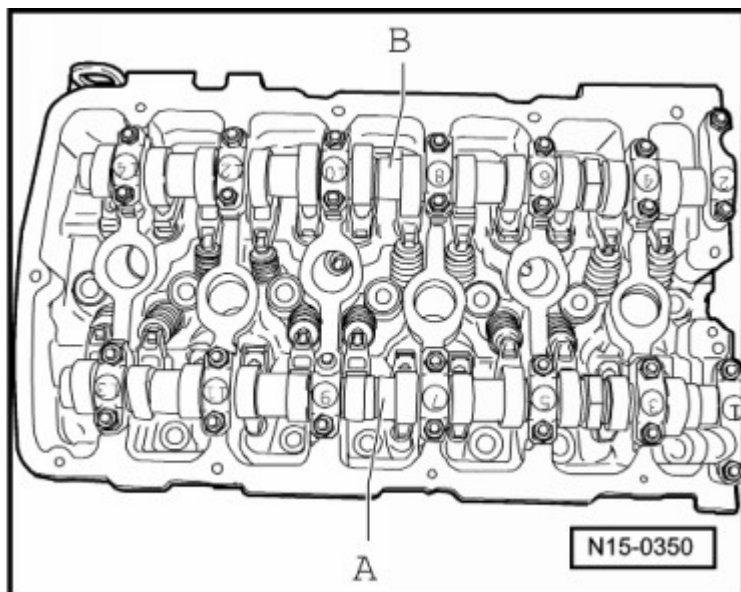

Fig. 15: Identifying Intake Camshaft And Exhaust Camshaft
- Tightening specifications and tightening sequence, refer to **Fig. 15**